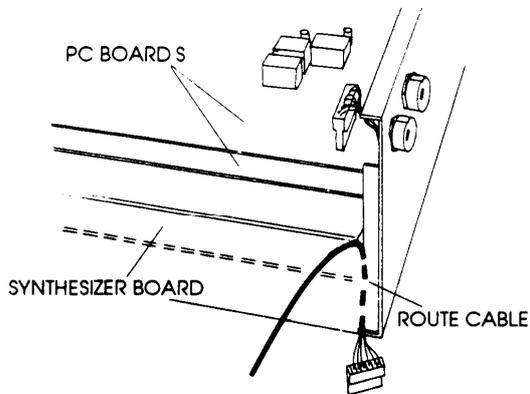

FIGURE 4
6) Route the free end of the 6-conductor VHF converter cable vertically down along the rear panel wall and past the synthesizer board assembly until the cable connector is visible out the bottom of the R8 receiver (Figure 4).